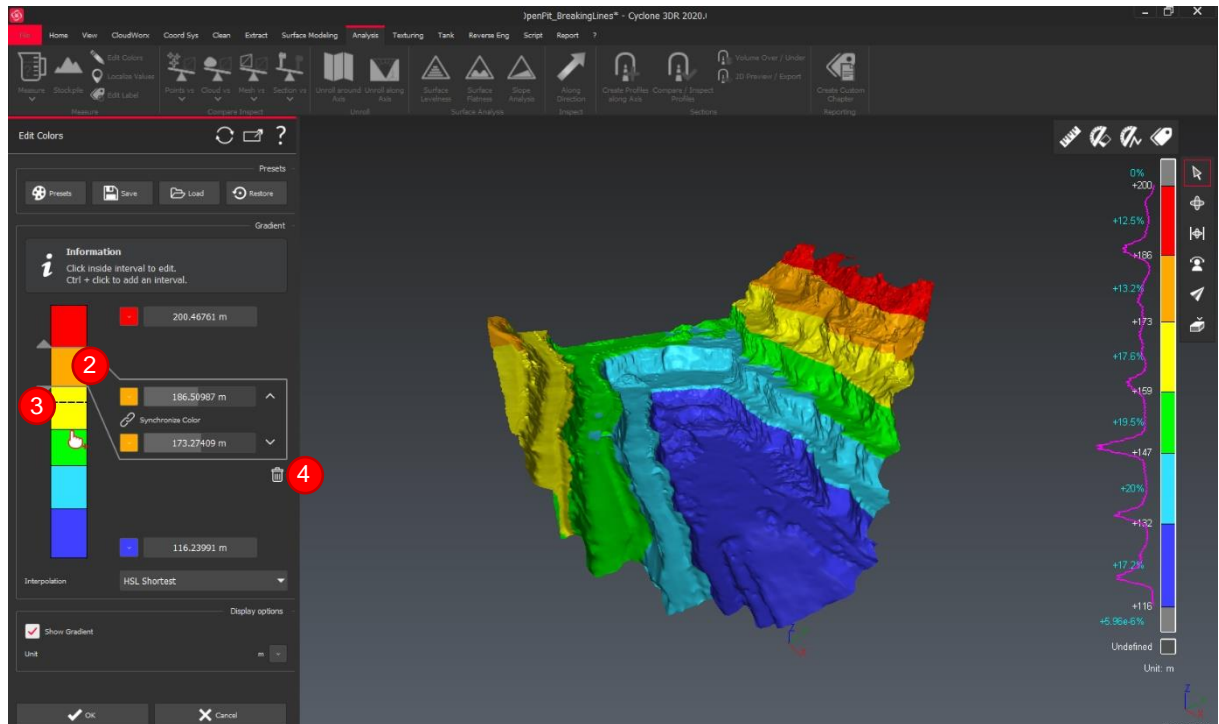

Figure 2. Showing the manual gradient edition options: adding/deleting a range, changing a border, modifying min/max values, choosing/configuring the color.
3. Figure 2. Selecting preset color gradient.